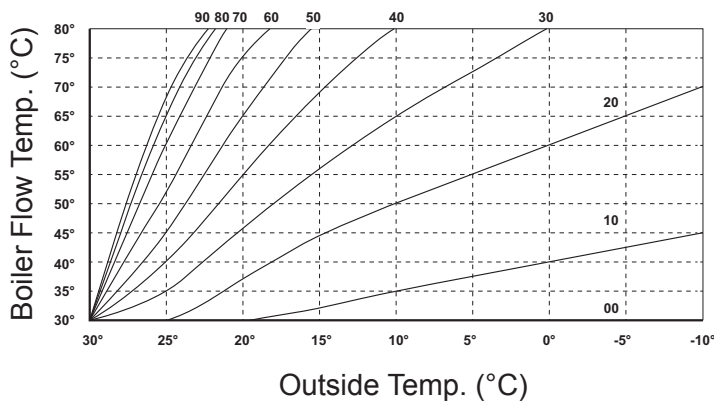

Fig. 42
10. Set the boiler as described in Section 7.0 (boiler group 'B') or section 13.0 (boiler group 'E') to correspond with the desired curve as shown on the graph (Fig. 42).
For example, if Curve '40' is selected (Fig. 42), at an outside temperature of 10°C the boiler flow temperature will be 80°C. Consider the type of dwelling and discuss with the user their requirements to determine the most appropriate curve.